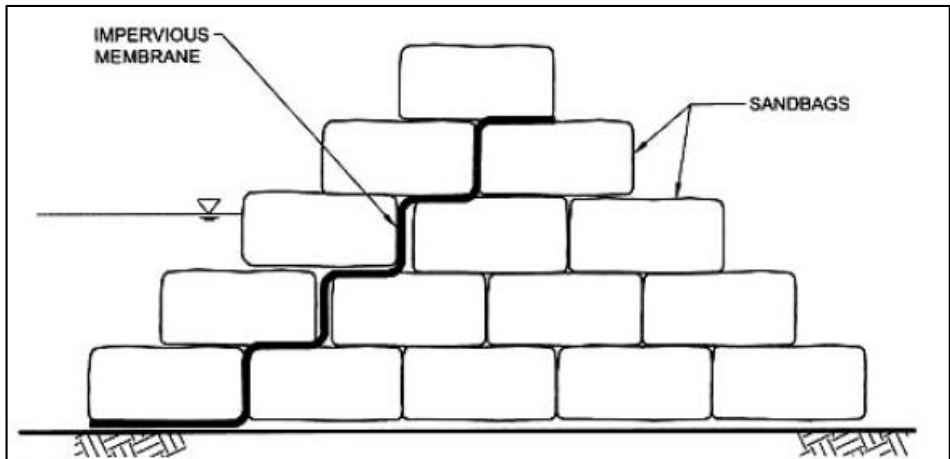

Figure 62: Sandbag Diversion Dam or Cofferdam
- A Sandbag Diversion Dam or Cofferdam can be utilized to divert flow around the work area. See **Figure 62**.